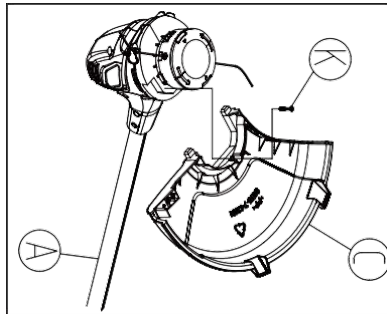

Fig. 2
- a). The safety guard (C) of the trimmer's head can be installed with a single screw (K). Slide the guard into place onto the head of the grass trimmer. On the underside of the guard, right next to the spool casing, there is a small screw hole. Attach the guard in place by fastening a screw. (See Fig. 2)